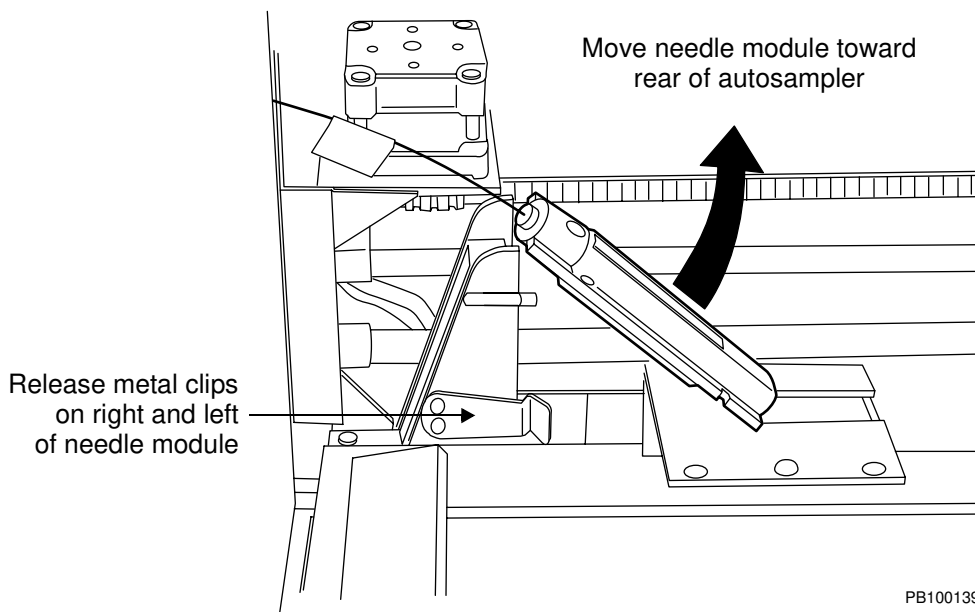

Figure 9-19 Removing the Autosampler Needle Module (Right Side View of Autosampler Area)
3. Remove the needle module from the holder by carefully unclipping it from the tower and pulling toward the rear of the autosampler (Figure 9-19).